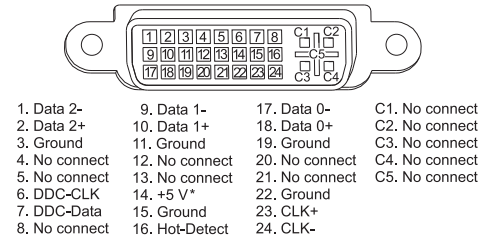

FIG. 5 DVI-D output pinout for converter
4. Attach one end of the DVI-D cable (pinout in FIG. 5) to the Destination Monitor and the other end to the converter.
The DVI-D connector on the converter uses the pinout in FIG. 5.